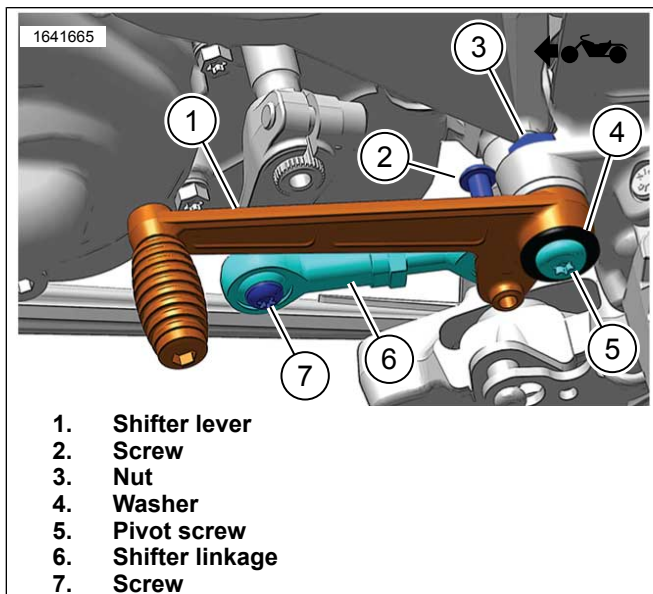

Figure 2. Shifter Lever / Shifter Linkage Removal
2. See Figure 2. Remove front shifter linkage screw (7).
3. See Figure 2. Remove shifter lever pivot screw (5), washer (4) and nut (3).
4. See Figure 2. Remove shifter lever (1) and shifter linkage (6) from frame boss.
5. See Figure 2. Remove Screw (2) from shifter linkage (6) from shifter lever (1).